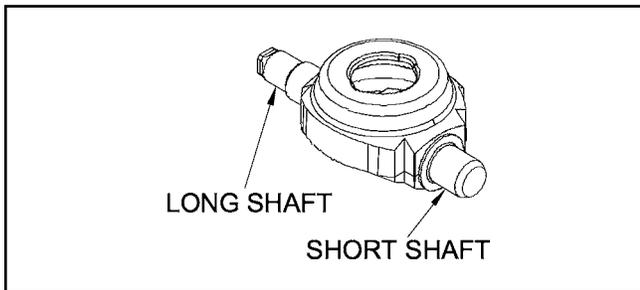

Figure 23.
14. *Care must be taken to prevent the scaring or scratching of the center section sealing face during this step.* Insert the shaft of the swashplate/pump block assembly (Figure 23) into the housing while simultaneously compressing the pistons in the block. NOTE: To assist in the installation of these components, insert the assembly until 3/4 of the pump block is covered by the center section. Then slightly press the shaft end toward the center section while pushing the shaft into its bore.